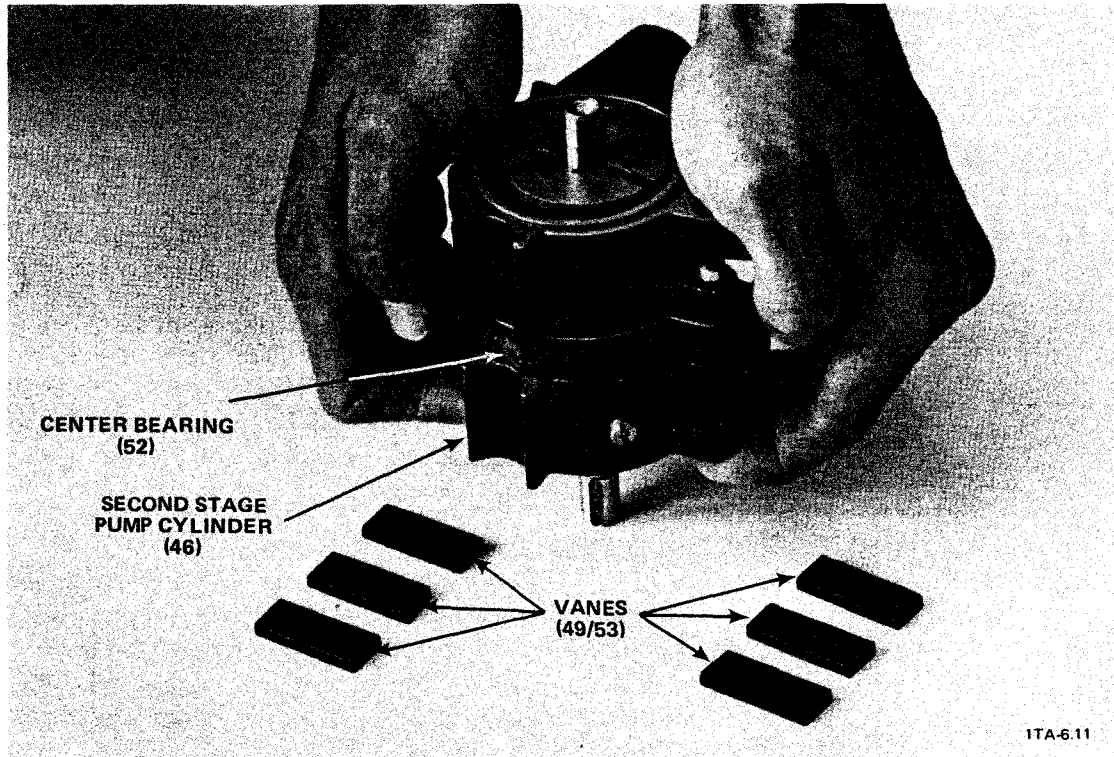

Figure 5-20. Pulling the Second Stage Pump Cylinder Tight Against the Center Bearing (D2A Pump Model Shown)
d. Attach the assembly that you put together in Step b(3) to the second stage pump cylinder as follows (see Figure 5-20):
(1) Take the assembly from Step b(3) and insert its second-stage end (the end that has the longer section of the shaft) down into the second stage pump cylinder (46).
(3) **NOTE:** When Step d(3) is completed, the beveled ends of the two long cylindrical pins (65) should extend most of the way through the upper alignment holes in the second stage pump cylinder (46).
REQUIRED ACTION: For the D2A, D4A, D8A, and D16A pump models, while keeping the assembly vertical, pull the second stage cylinder (46) straight up over the long cylindrical pins (65) until it is tight against the center bearing plate (52) (see Figure 5-20).
- f. While keeping the partially assembled module vertical, fit an O-ring (47) into the O-ring groove on the HV-cylinder (55) surface that is facing up (see Figure 5-20).
- g. Attach the rear end plate (60) to the partially assembled module as follows:
- (1) **NOTE:** Be sure to attach the rear end plate (60) to the HV-stage end of the module. The HV pump cylinder (55) is the one with the intake tube portion.